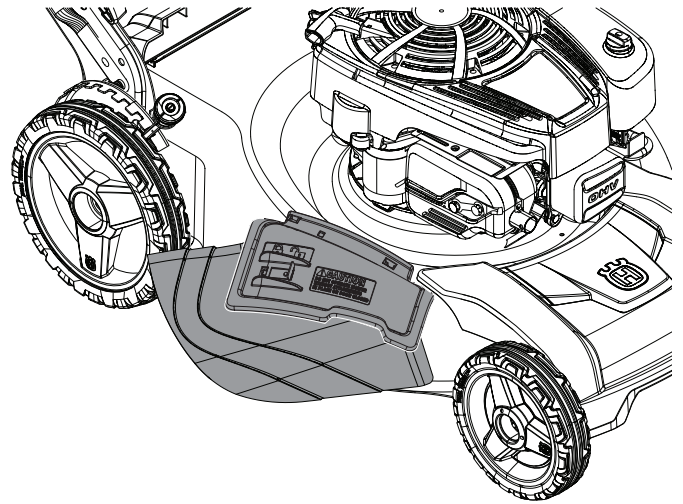

Figure 14
3. Mower is now ready for side discharging operation (Figure 14).